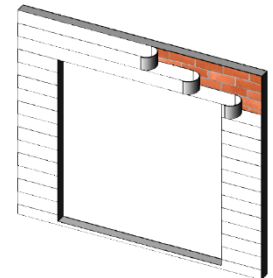

Figure 21:
4. Weather resistant building paper should be applied in a weatherboard fashion to complete the installation (Figure 21).